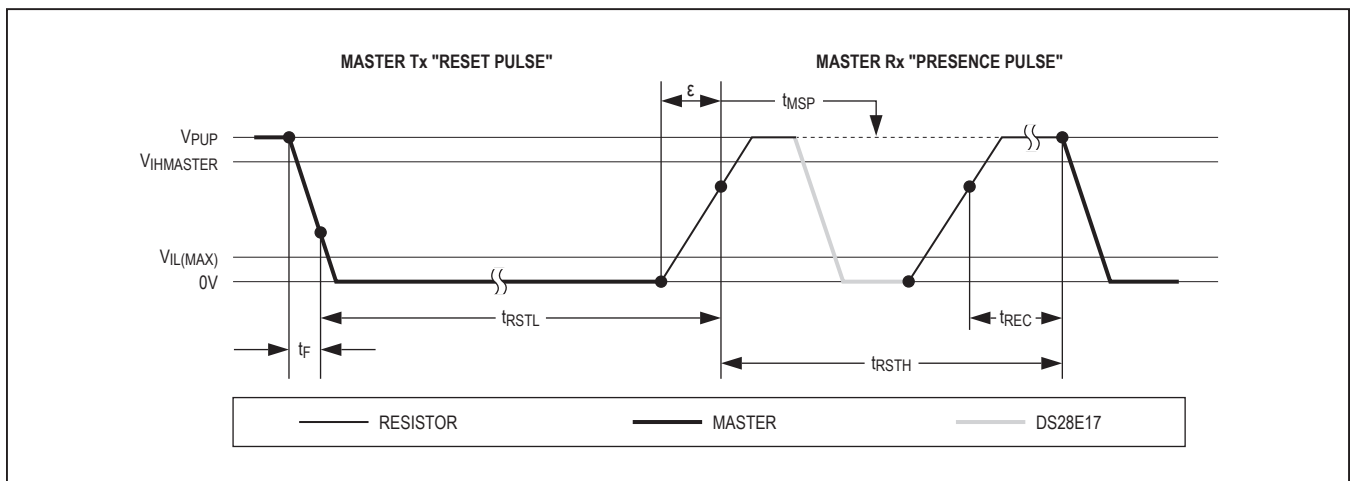

Figure 5. Initialization Procedure: Reset and Presence Pulse
**Note 12:** ε in Figure 5 represents the time required for the pullup circuitry to pull the voltage on IO up from VIL to VIH. The actual maximum duration for the master to pull the line low is tW1LMAX + tF - ε and tW0LMAX + tF - ε, respectively.
from active to idle, the voltage needs to rise from below  $V_{ILMAX}$  to above  $V_{IHMIN}$ . The time it takes for the voltage to make this rise is seen in Figure 5 as  $\epsilon$ , and its duration depends on the pullup resistor ( $R_{PUP}$ ) used and the capacitance of the 1-Wire network attached. The voltage  $V_{ILMAX}$  is relevant for the DS28E17 when determining a logical level, not triggering any events. For more information on the capacitance of a 1-Wire network, refer to Application 6208: *Extending I2C Communication Distance with the DS28E17*.
Figure 5 shows the initialization sequence required to begin any communication with the DS28E17. A reset pulse followed by a presence pulse indicates that the DS28E17 is ready to receive data, given the correct ROM and Device command. If the bus master uses slew-rate control on the falling edge, it must pull down the line for  $t_{RSTL} + t_F$  to compensate for the edge. A  $t_{RSTL}$  duration of 480 $\mu$ s or longer exits the overdrive mode, returning the device to standard speed. If the DS28E17 is in overdrive mode and  $t_{RSTL}$  is no longer than 80 $\mu$ s, the device remains in overdrive mode. If the device is in overdrive mode and  $t_{RSTL}$  is between 80 $\mu$ s and 480 $\mu$ s, the device resets, but the communication speed is undetermined.